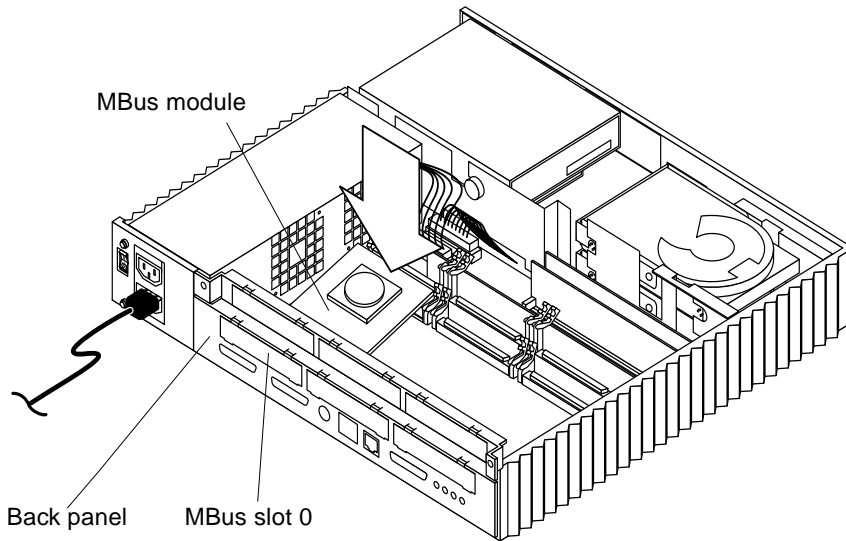

FIGURE 11-4 Installing a Single-Wide MBus Module
2. Position the MBus module so that the MBus module connector faces the appropriate slot (FIGURE 11-4).